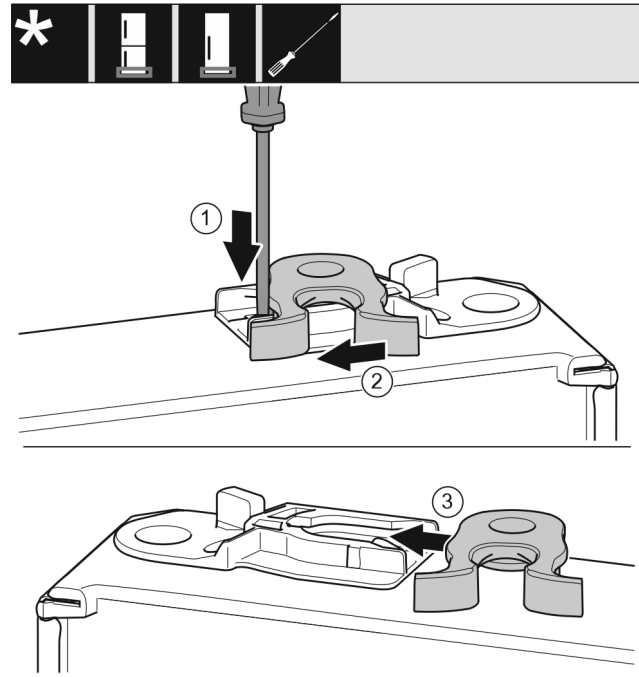

Fig. 17
- ▶ Push the lug downward with a slotted screwdriver. Fig. 17 (1)
- ▶ Pull the door latch out of the guide. Fig. 17 (2)
- ▶ Push the door latch into the guide on the other side. Fig. 17 (3)